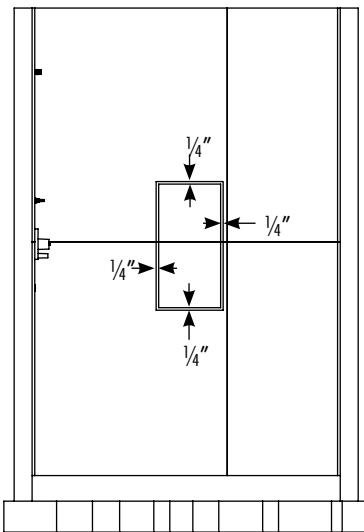

figure 24
7. Cut the rectangle out of the cement boards. Cut it 1/4" bigger than your mark to allow for adjustment during installation (fig. 24).